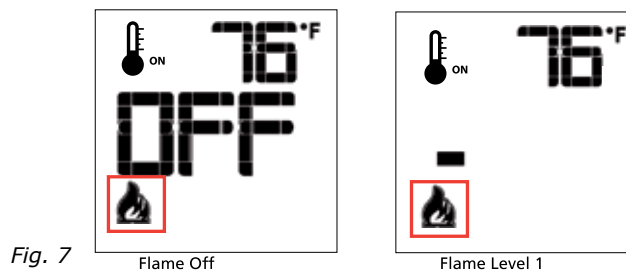

Fig. 7
The Proflame has six (6) flame levels. With the system on, and the flame level at the maximum in the appliance, pressing the Down Arrow Key once will reduce the flame height by one step until the flame is turned off. The Up Arrow Key will increase the flame height each time it is pressed. If the Up Arrow Key is pressed while the system is on but the flame is off, the flame will come on in the high position (Fig. 7 & 8). A single "beep" will confirm reception of the command.